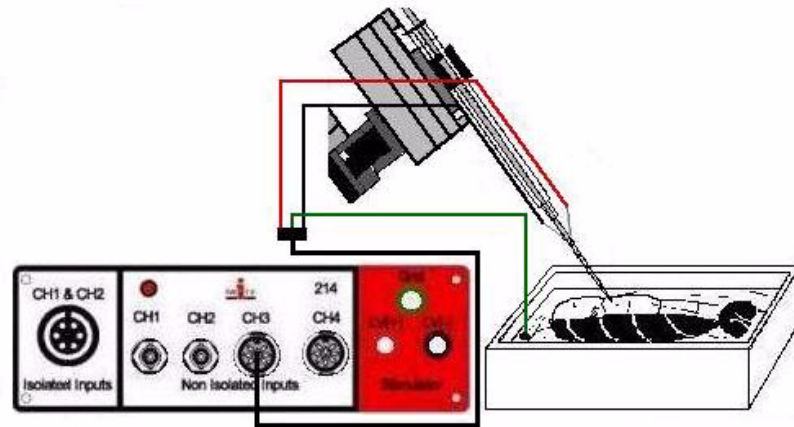

Figure 3-5: Recording electrode positioned to record from sensory nerve in the second abdominal segment.
- 6 Align the electrode and its manipulator (or stand and clamp) at an angle that still permits the posterior segments of the tail to be flexed without touching the electrode (Figure 3-5 on page 8). View the electrode tip through the microscope and move it until it is near or touching the cut end of the nerve. The opening in the tip of the electrode should be the same size or only slightly larger than the diameter of the nerve. Carefully pull back on the plunger of the 3cc syringe (without moving the tubing) and pull the end (or a loop) of the nerve into the electrode.